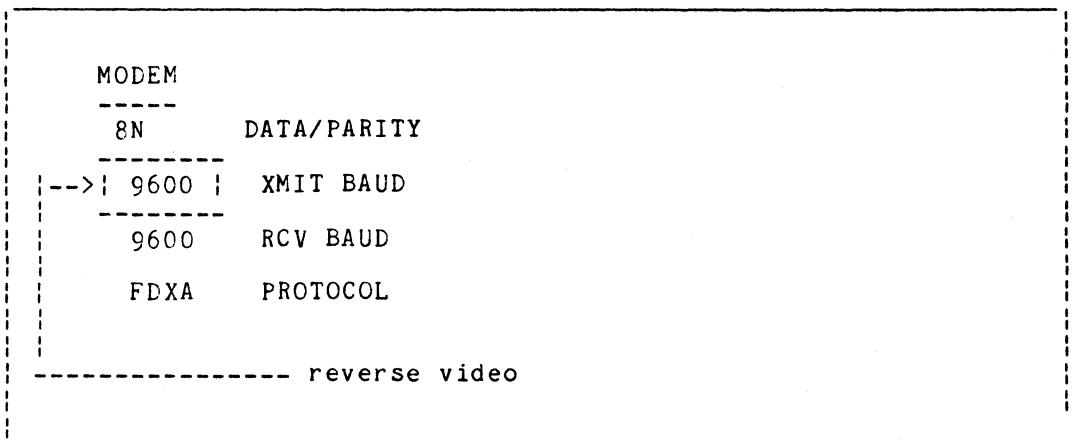

Figure 8. Modem Major Field Display
9.1.1.5 Modem Field - The modem field displays the parameters for the modem port (communications port). Some of these are only applicable in "terminal" mode. Each parameter has a range of possible values, and the field is shown as a list on the display (Figure 8). The active parameter is shown by a reverse video field.